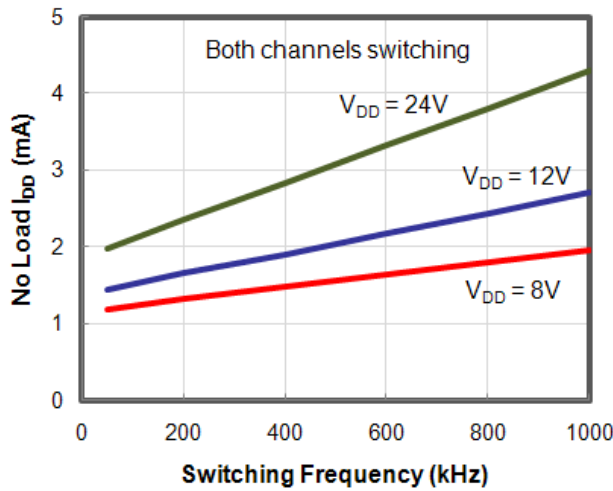

Figure 9.  $I_{DD}$  (No Load) vs. Frequency
**Dynamic Pre-drive / Shoot-through Current:** Power loss resulting from internal current consumption under dynamic operating conditions, including pin pull-up / pull-down resistors, can be obtained using the "IDD (No-Load) vs. Frequency" graphs in Figure 9 to determine the current IDYNAMIC drawn from VDD under actual operating conditions.